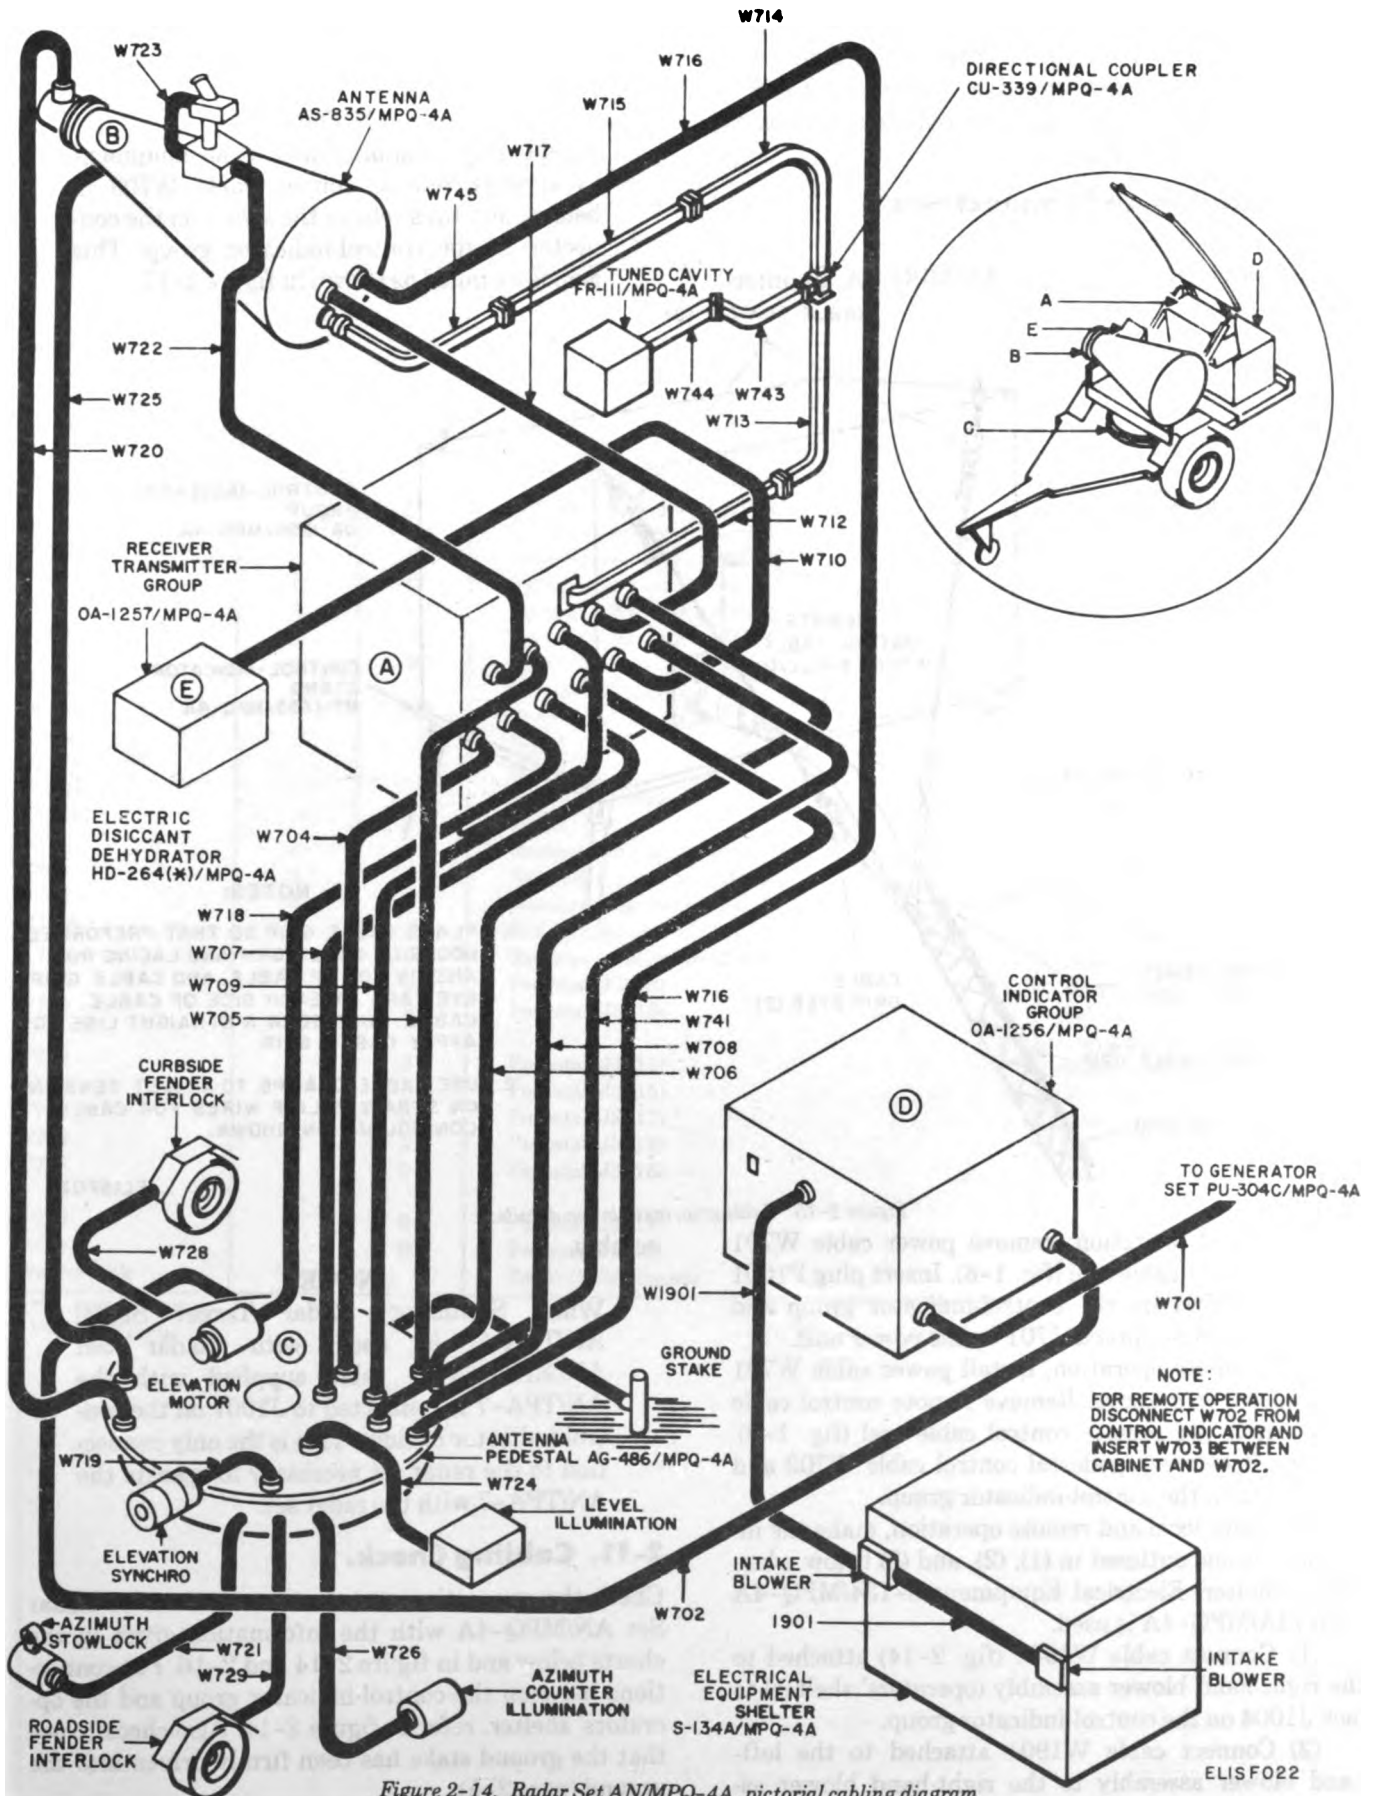

Figure 2-14. Radar Set AN/MPQ-4A, pictorial cabling diagram.
(2) Connect other end of power cable CX-2771/U (W701) to Jack J1001 on Control Indicator Group OA-1256/MPQ-4A of Radar Set AN/MPQ-4A (fig. 2-14).
(1) Unbolt the control-indicator group from the radar trailer.
(2) Disconnect pedestal control cable W702 (fig. 2-14) from jack J1002, and disconnect power cable W701 (fig. 2-14) from jack J1001, if connected.
(3) Extend the tubular carrying handles and, with four to six men, carry the cabinet to the remote site. (This component weighs approximately 570 pounds.)
(4) Slide the cabinet into position on the stand and mate the slots on the cabinet with the positioning
(fig. 2-14)
c. For both local and remote operation, make the interconnections outlined in (1), (2), and (3) below when either Shelter, Electrical Equipment S-134/MPQ-4A or S-13A/MPQ-4A is used.
(1) Connect cable W1901 (fig. 2-14) attached to the right-hand blower assembly (operators' shelter) to jack J1004 on the control-indicator group.
(2) Connect cable W1901 attached to the left-hand blower assembly to the right-hand blower as-
Check the connections between components of Radar Set AN/MPQ-4A with the information given in the charts below and in figure 2-14 and 2-16. For connections between the control-indicator group and the operators' shelter, refer to figure 2-14. Also check to see that the ground stake has been firmly driven into the ground (para 2-5).
a. Cables to be Connected (fig. 2-14).
b. Cables to be Checked (fig. 2-14, 2-16).